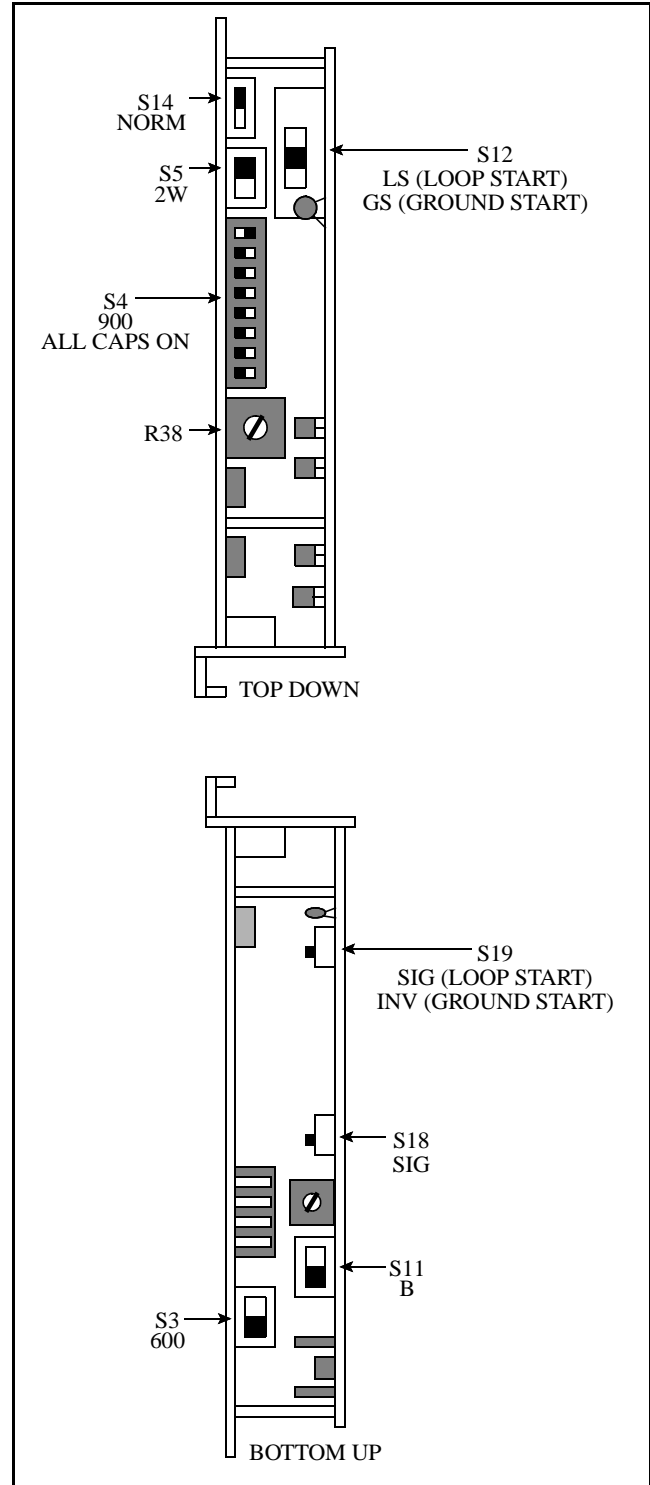

Figure 14-22 TELLABS 6132B - POTS
Switch Settings on 6132B (POTS Applications), see Table 14-9. POTS lines use the Tellabs 6132B Termset. Initialize the Termset switch settings, see Figure 14-22.
7. Adjust the balance circuit of the Termset (see Figures 14-22 or 14-23) for minimum Exciter deviation or RMS voltage at J11 on the E&M Main Board. See Section 14.14 for additional information on reflected energy levels from the CO.